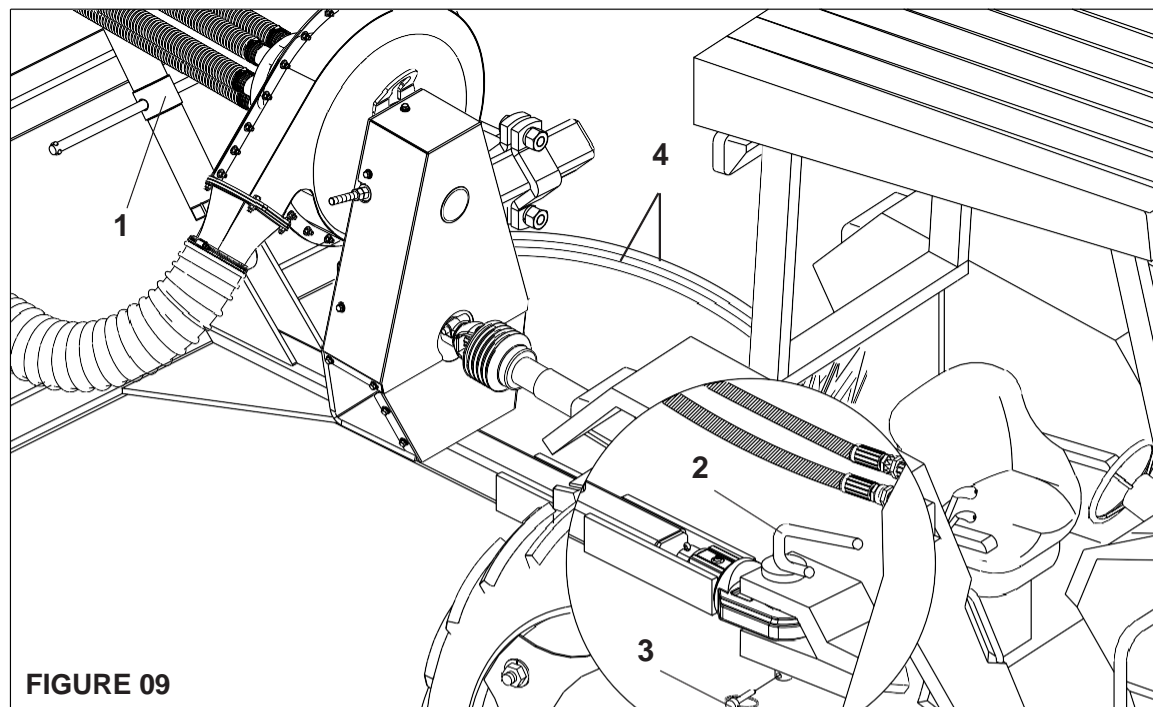

FIGURE 09
2 - Proceed to couple the seeder to the tractor via pin of coupling (2) place the lock (3). **(FIGURE 09)**
7 - With the seeder lowered, make sure it is levelled in relation to the tractor, otherwise level it with the header regulator (1). **(FIGURE 09)**